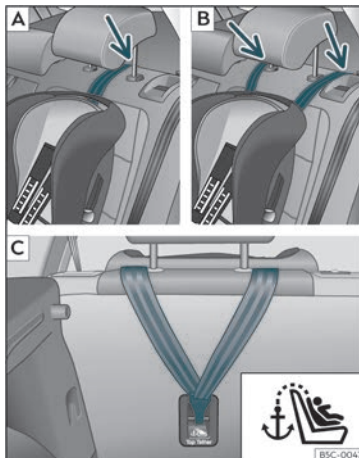
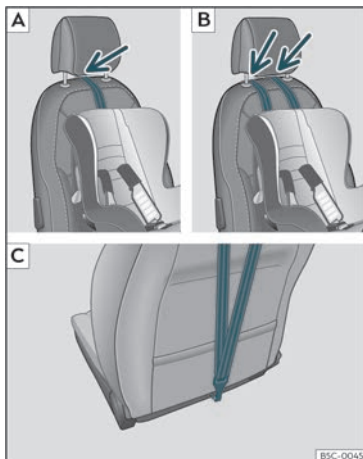

Fig. 29 Rear seats: adjustment and assembly according to the Top Tether belt.
Fig. 30 Front passenger seat: adjustment and assembly according to the Top Tether belt.
lift or remove the headrest if necessary) >>> **Fig. 29 [A/B]**, >>> **Fig. 30 [A/B]**.
- Slide the strap and secure it properly with the anchorage of the backrest >>> **Fig. 29 [C]**, >>> **Fig. 30 [C]**.